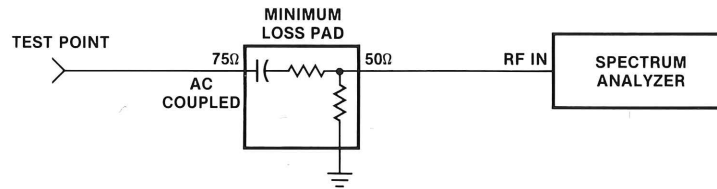

Figure 5-2. Equipment interconnection for co-channel measurements.
1. Interconnect the equipment as illustrated in figure 5-2.